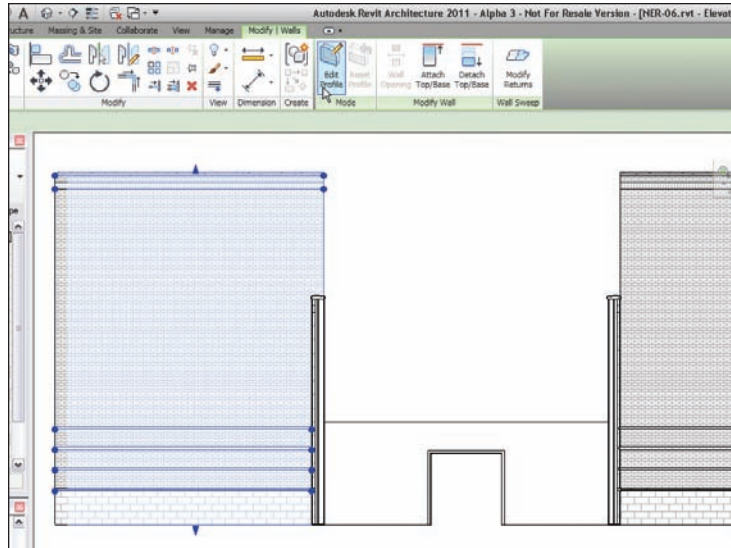

FIGURE 3.41 Clicking Edit Profile on the Modify | Walls tab
2. In this section, select the east wall of the west wing, as shown in Figure 3.41.
3. After you select the wall, look to your Modify | Walls tab. There you will see a button that says Edit Profile, as shown in Figure 3.41. Click that button.